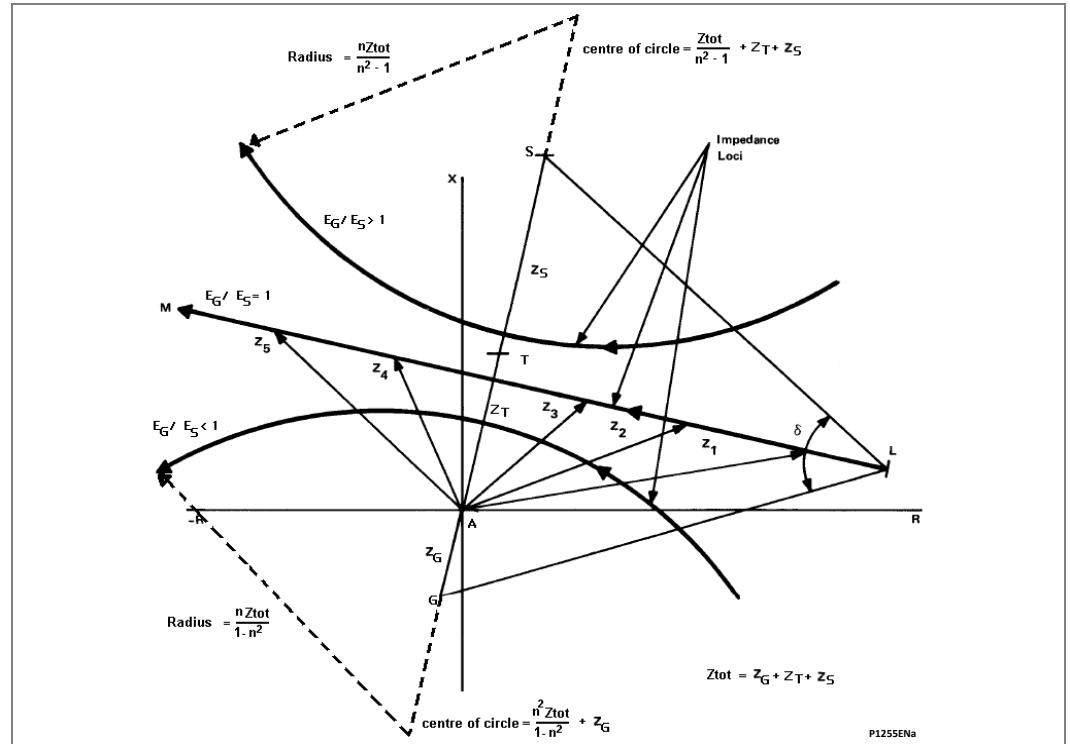

Figure 51 - Apparent impedance loci viewed at the generator terminal (point A)
The apparent impedance as viewed at the generator terminals (Point A) will vary as a function of the ratio n and the angular separation δ between the machine and the system. With the aid of the R/X impedance diagram, a set of impedance loci representing a loss of synchronism along with the system impedances are plotted as shown in Figure 51.
The diameters and centers of these circles are a function of the voltage ratio E_G / E_S and the total impedance, as shown in Figure 51. It is not always necessary to go into the detail of plotting the circular characteristic to identify the loss of synchronism. In most cases, it is only necessary to simply draw the perpendicular bisector to the total impedance line to locate the point on the system where the swing will traverse which is sufficiently accurate for relaying purposes.
As noted previously, generator and system impedances have changed in the past few decades. In many instances, the electrical center or impedance center lies within the generator or step-up transformer. Also, for most machine loadings, the equivalent internal machine voltage will be less than 1.0 per unit and so less than the equivalent system voltage. Therefore the pole slipping characteristics viewed at the generator terminals will generally follow the loss of synchronism characteristic where the voltage ratio $E_G/E_s < 1$ which is below the impedance center. See the locus $E_G/E_s < 1$ in Figure 51 for example.
For a given total impedance, as the voltage ratio decreases below one (1), the circle also decreases in diameter and the center moves closer to the origin. Therefore, a decreased internal voltage results in the impedance loci having a smaller diameter. The radius and circular center calculations using the equation shown in Figure 51 shows these trends.